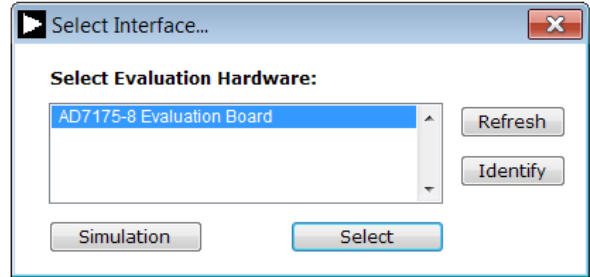
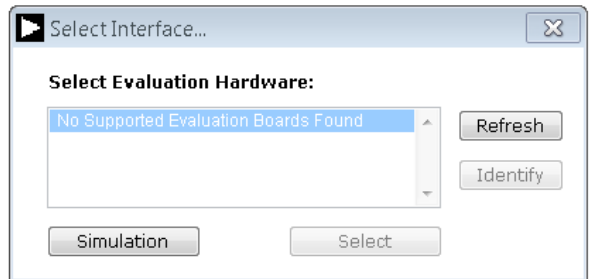

Figure 13. AD7175-8 Evaluation Board Selection
Figure 14. Evaluation Board Selection, No Board Connected
- The dialog box in Figure 13 appears, select **AD7175 Evaluation Board**. The main window of the software box displays as shown in Figure 16.
- If the **EVAL-AD7175-8SDZ** evaluation system is not connected to the USB port via the **SDP-B**, when the software is launched the **Select Interface** dialog box appears (see Figure 14). Connect the evaluation board to the USB port of the PC, wait a few seconds, click **Refresh** and the option shown in Figure 13 appears.
The Evaluation Mode indicator displays the current evaluation mode. To switch between modes, click the Select Product button and the dialog box shown in Figure 13 appears.